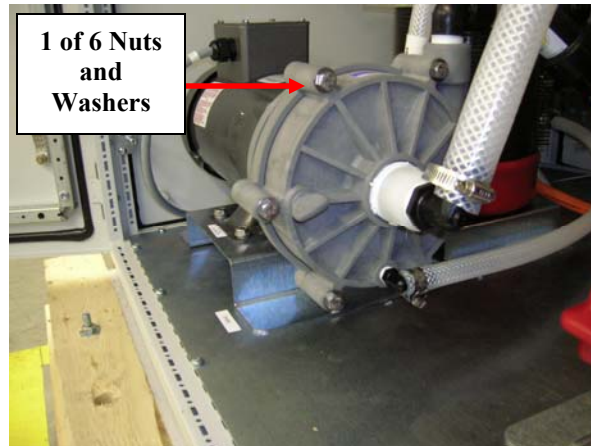

Figure 15 Pump Housing Cover
10. Using a 9/16" wrench, remove the six (6) nuts and washers that secure the pump housing cover. Place the pump housing cover to the side. (Refer to Figure 15.)